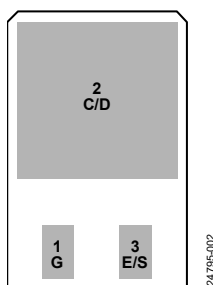

Figure 2. IGBT/MOSFET Footprint
- Q1 and Q2 can be populated with TO-220 package MOSFETs or IGBTs, and Q3 and Q4 with TO-252 package MOSFETs or IGBTs (see Figure 2). In Figure 2, C/D is collector/drain, G is gate, and E/S is emitter/source.